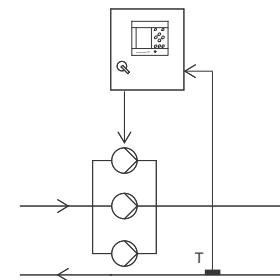

Fig. 12 Return-pipe temperature
- Return-pipe temperature with one sensor. See fig. 12.